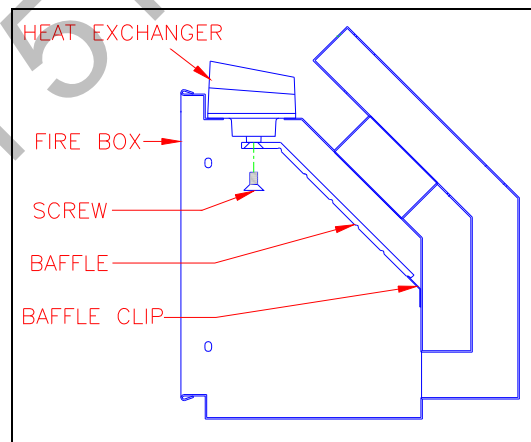
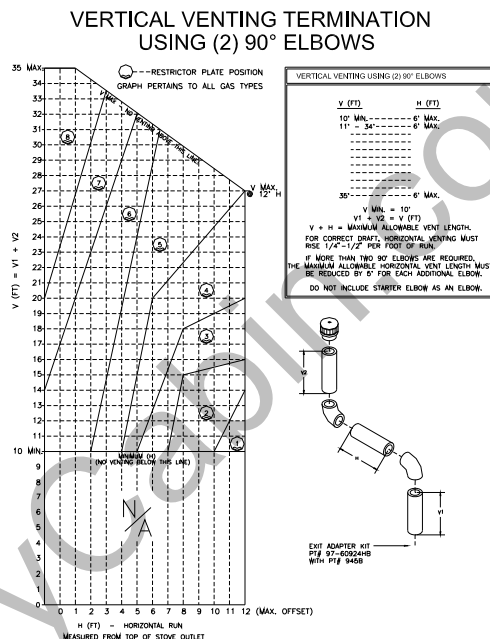
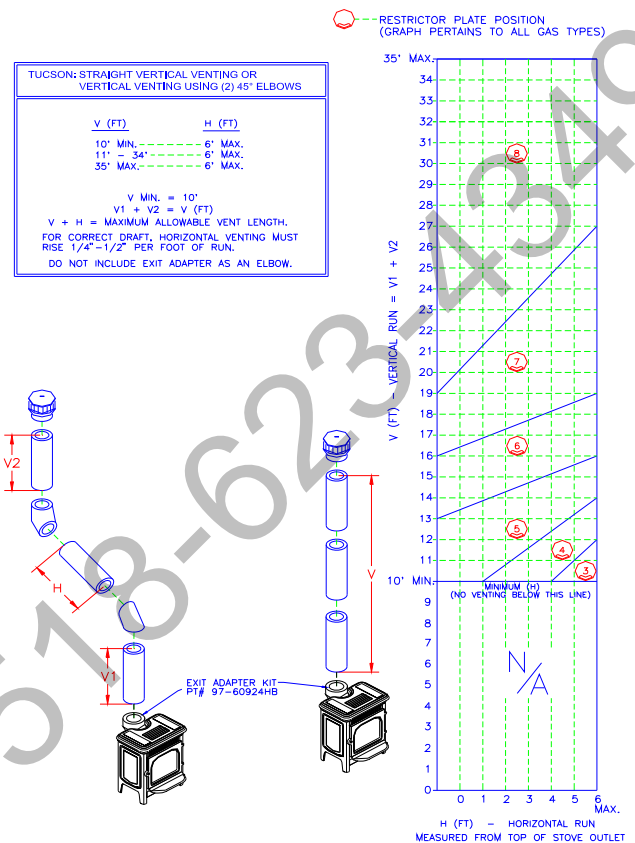

Figure 10: Baffle Removal
Figure 15: Vertical Termination Using (2) 90° Elbows
Figure 14: Vertical Terminations Using Straight Pipe
Remove the log set before adjusting the restriction plate by following the log set removal instructions on page 25. Make sure the unit is cool before touching any part of the firebox and log set. Remove the exhaust baffle by removing the one screw in the center of the baffle (refer to Figure 10). The baffle will come out once the screw is removed. *Be careful not to drop the baffle on the pan burner.* Once the baffle is set aside, check the restriction plate screw location. There are eight locations that the restriction plate can be positioned. (Refer to Venting Configuration – Figures 14 – 16 for recommended restriction plate positions)
APPROVED VERTICAL TERMINATION VENTING CONFIGURATIONS WITH NO ELBOWS OR (2) 45° OFFSETS, FIGURE 14, AND (2) 90° ELBOWS, FIGURE 15.
- 6' maximum offset (refer to Figure 14)
- 11' maximum offset (refer to Figure 15)
- The termination must fall within the Outline shown in the Figures 14 & 15. Use the indicated restriction plate position. The Restriction Plate part # is 5950-922.